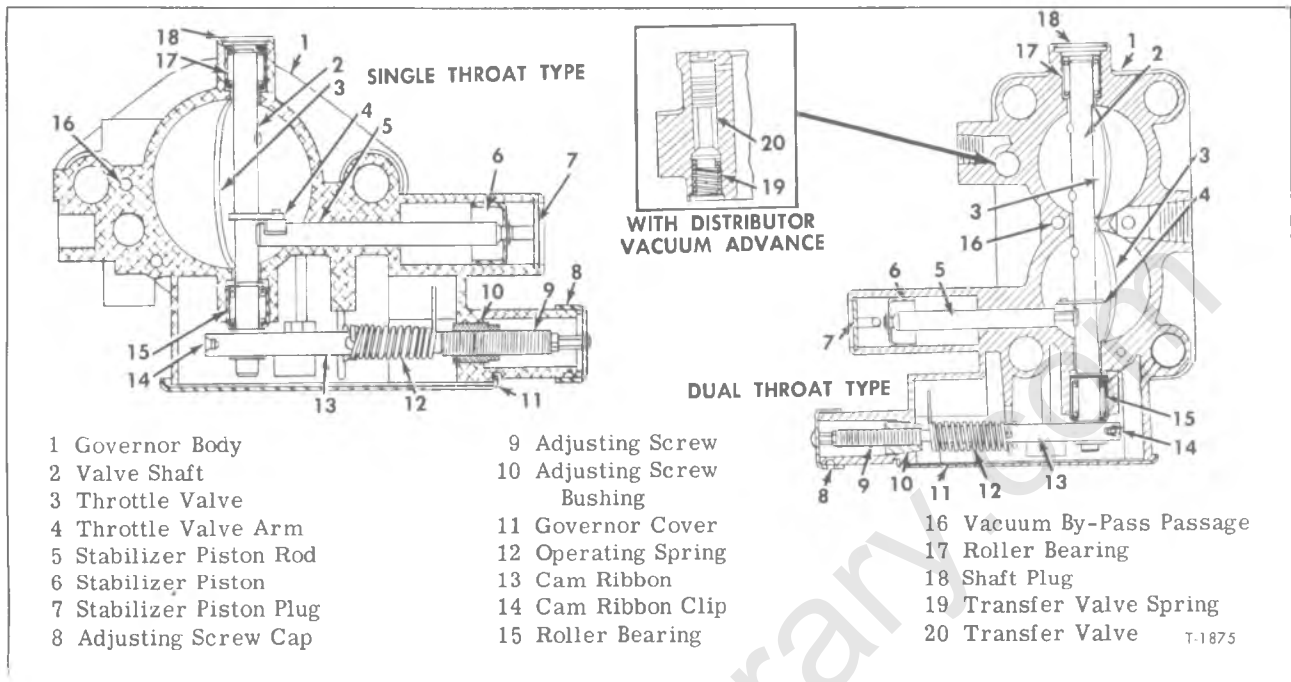

Figure 8—Velocity Type Governor
Velocity type governors are of two types and designated as single-throat type and dual-throat type (fig. 8). Single-throat type governor, having a single throttle valve is used on In-line engines, and the dual-throat type governor having two throttle valves is used on V-6 engines.
Vacuum valve (20) and valve spring (19) shown on insert of figure 8 assist in regulating the ignition timing and do not in any way control the governed speed of engine.
In certain cases when vehicle goes into service or has been in service for a short period of time, operator may for purposes of policy, or as a result of experience, desire a setting on governor other than that originally established. This may be accomplished exclusively with use of regular governor adjusting screw cap (8, fig. 8) as follows: